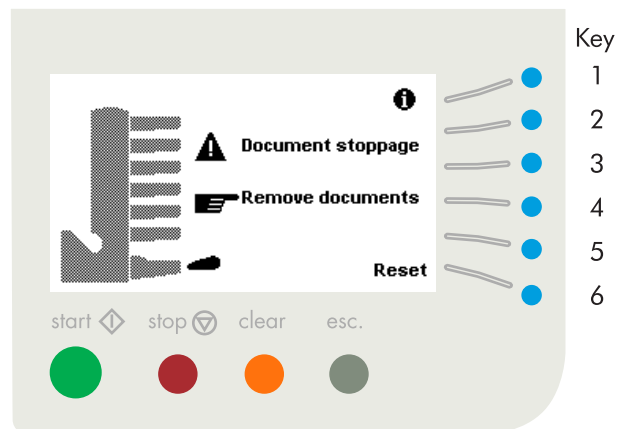

Fig. 50
When a paperflow error occurs the display shows a screen as in fig. 50 (for example). The menu shows the following functions:
Reset the error after solving the problem with key 6 (see fig. 50).